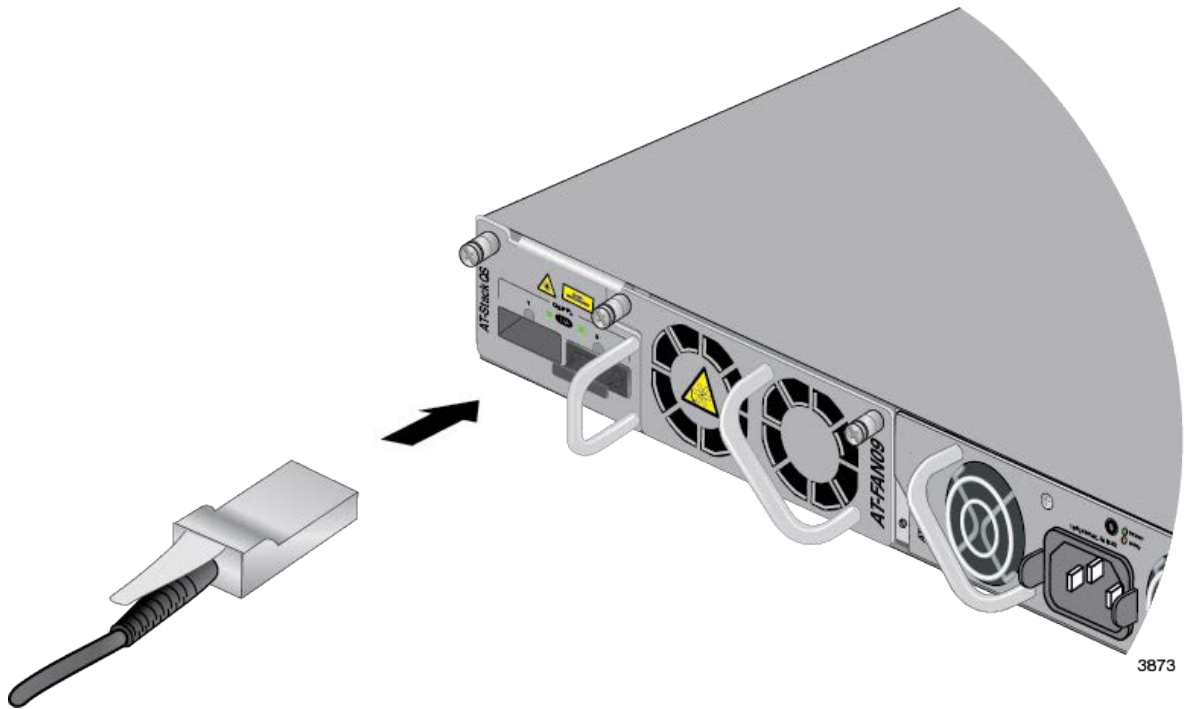

Figure 92. Installing the AT-QSFPICU Cable in Port 1
2. Slide the connector on the AT-QSFPICU Cable into the port until it clicks into place. Refer to Figure 92 on page 195.